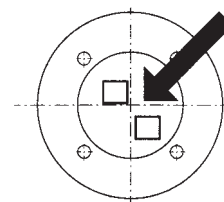

Fig. 3
**Zero point** with potentiometer, varnished white (fig. 3)
**Slope** with potentiometer, varnished red (fig. 3), +/- 10 % of the full scale output, can be adjusted with application of appropriate pressure.
- Adjust zero point output signal with zero point potentiometer (varnished white, fig. 3).
- Apply desired upper pressure and adjust output signal with slope potentiometer (varnished red, fig.3).